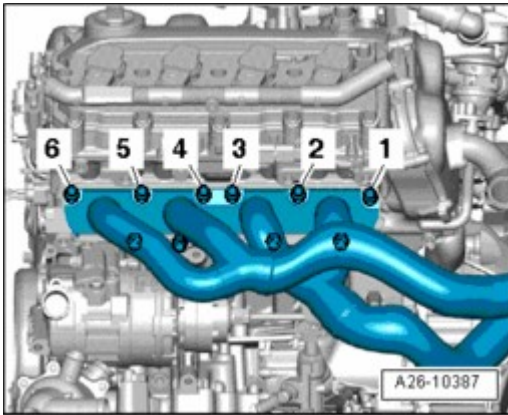
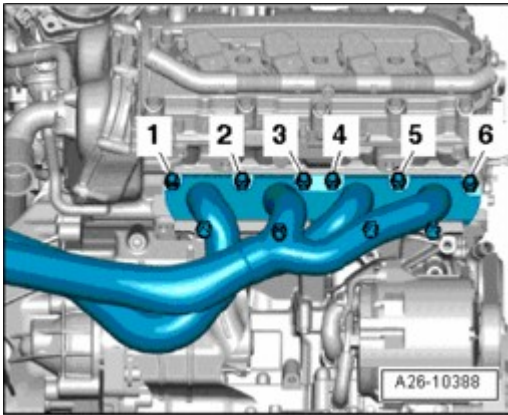

Fig. 529: Removing/Installing Nuts And Left Exhaust Manifold
Fig. 534: Removing/Installing Nuts And Right Exhaust Manifold
- Observe tightening sequence: Left --> **Fig. 529** , right --> **Fig. 534**